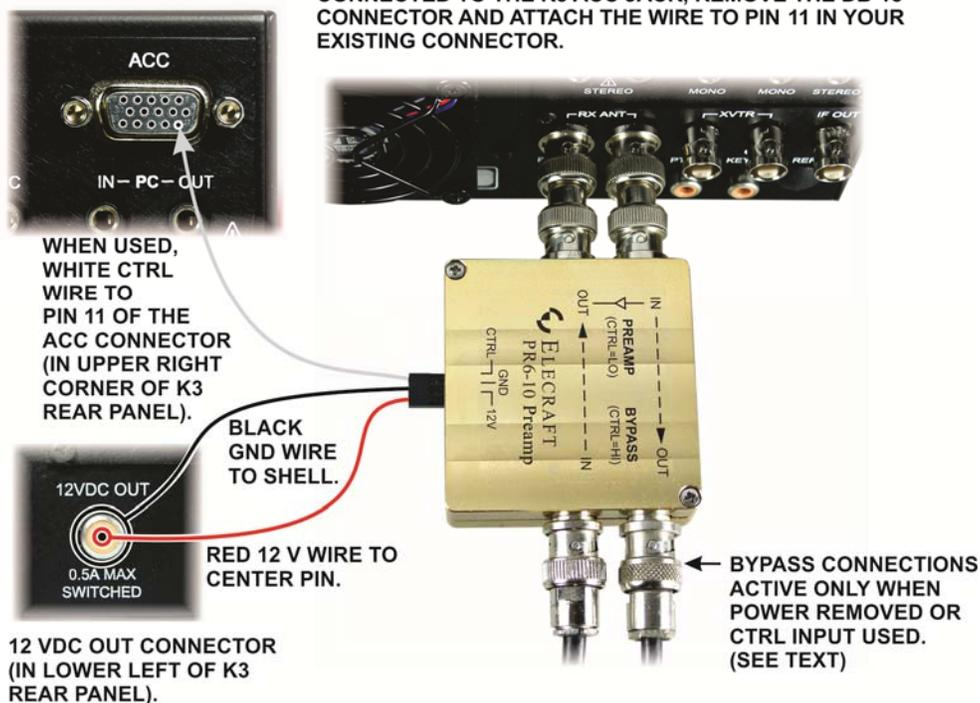

Figure 2. PR6-10 Mounted on Elecraft K3.
The BNC connector spacing matches the rear-panel RX ANT connectors so the PR6-10 may be attached to the K3 using the supplied male-male BNC connectors as shown in Figure 2. A prewired cable is supplied that connects to the K3 as follows:
- The Control (CTRL) input is optional (see below) when the DB-15 connector is attached to the ACC connector on the K3. The white CTRL wire is connected to the DIGOUT1 signal at pin 11 of the ACC jack on the K3 rear panel through the DB-15 connector (See Figure 2). If you already have a cable connected to the K3 ACC port for a transverter or band decoder, remove the DB-15 from the cable and add the wire to pin 11 of the existing connector.